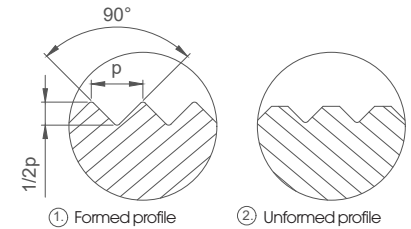

Fig. 6: Different profile pattern
The correct profile depth has been reached when the profile is knurled completely (Fig. 6, ref. 1). If the profile is not formed (Fig. 6, ref. 2), adjust the threaded bush an additional scale mark and run the workpiece through again. Running into the workpiece again is possible, because the knurling wheels catch in the existing profile.